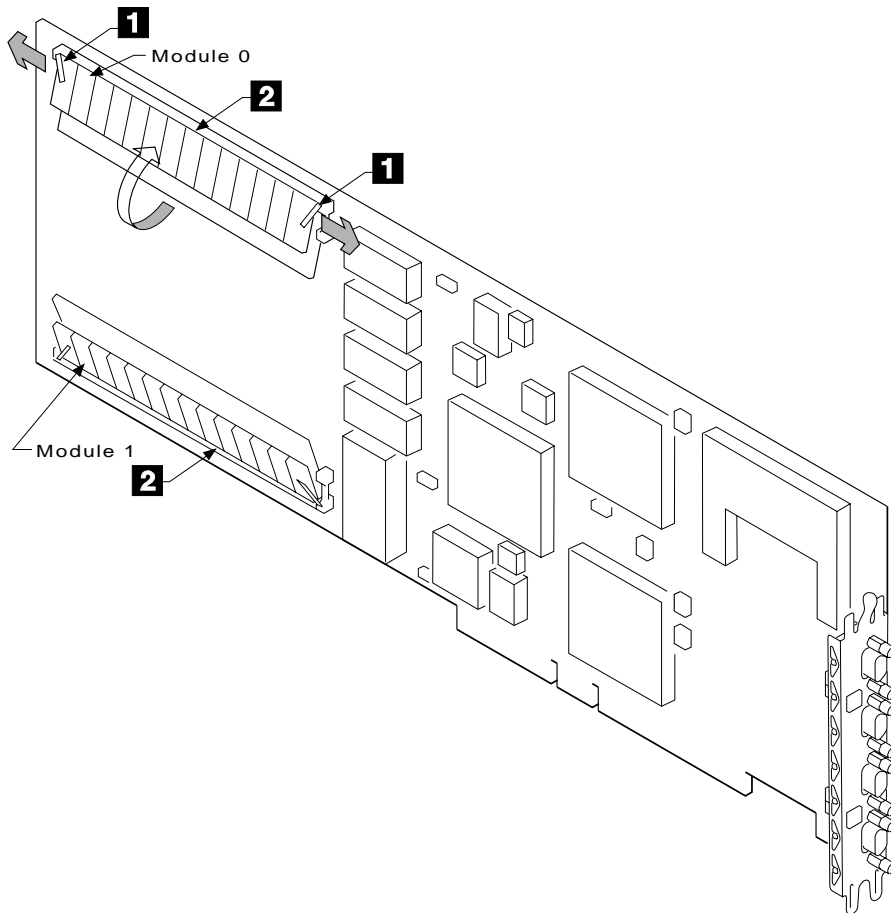

Figure 21. Removing a DRAM Module
Figure 21 on page 180 shows an adapter that might not be of the type you are servicing. The instructions, however, are suitable for all these types of adapter.
1. Refer to Figure 21.